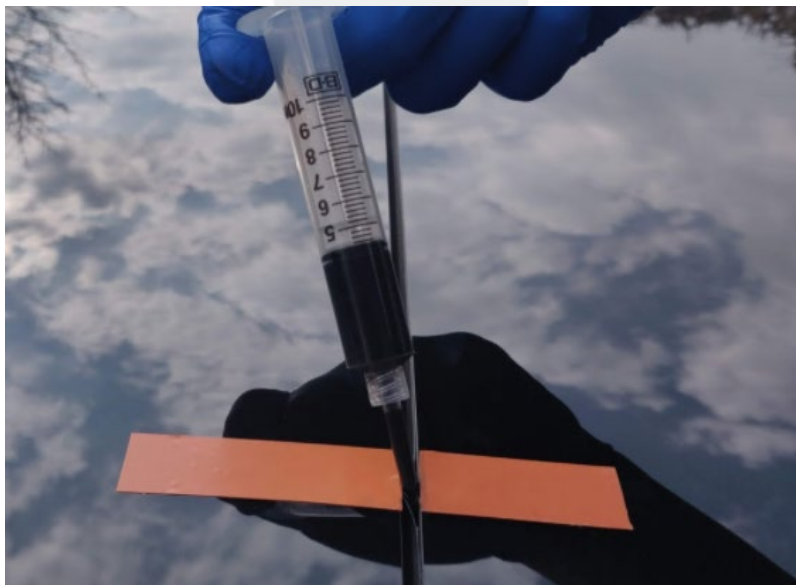

Figure 11
- Insert the syringe at the marked line, angling it to inject sealant towards the outside edge of the vehicle (Figure 11).